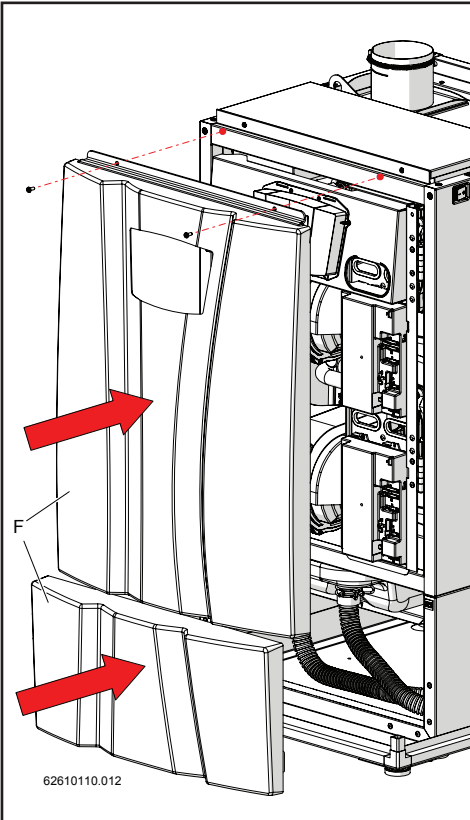
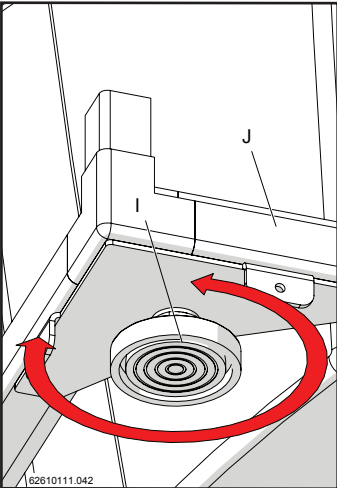

Figure 15-7
Figure 15-8
- 4.- Replace the boiler's upper and lower front covers "F" (figure 15-7). Then adjust the adjustable feet "I" of the lower framework "J" to regulate the boiler's stability on the surface it is installed on (figure 15-8).